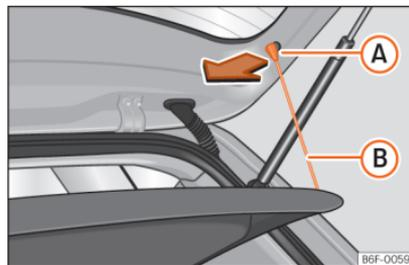

Fig. 121 In the luggage compartment: removing and fitting the shelf.
- Detach the cord loops »» Fig. 121 (B) from their hooks (A).
- Hook the loops »» Fig. 121 (B) to the rear lid.